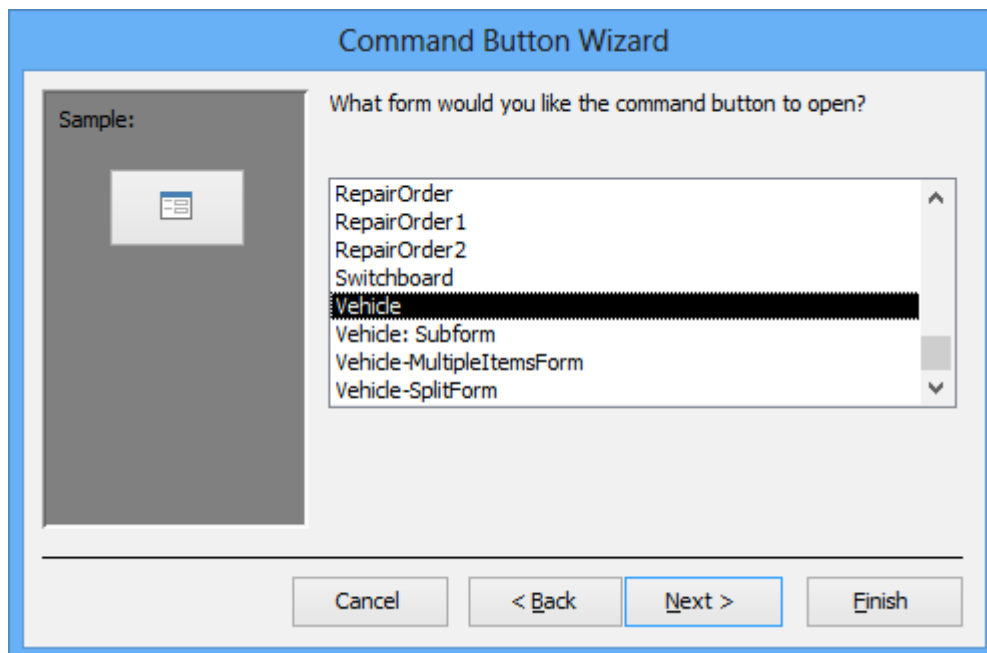

Figure 21: Second Window of the Command Button Wizard
11. Select Form to Be Opened: The next window asks you to identify the form to open (Figure 21). Select “Vehicle” and click **Next**.